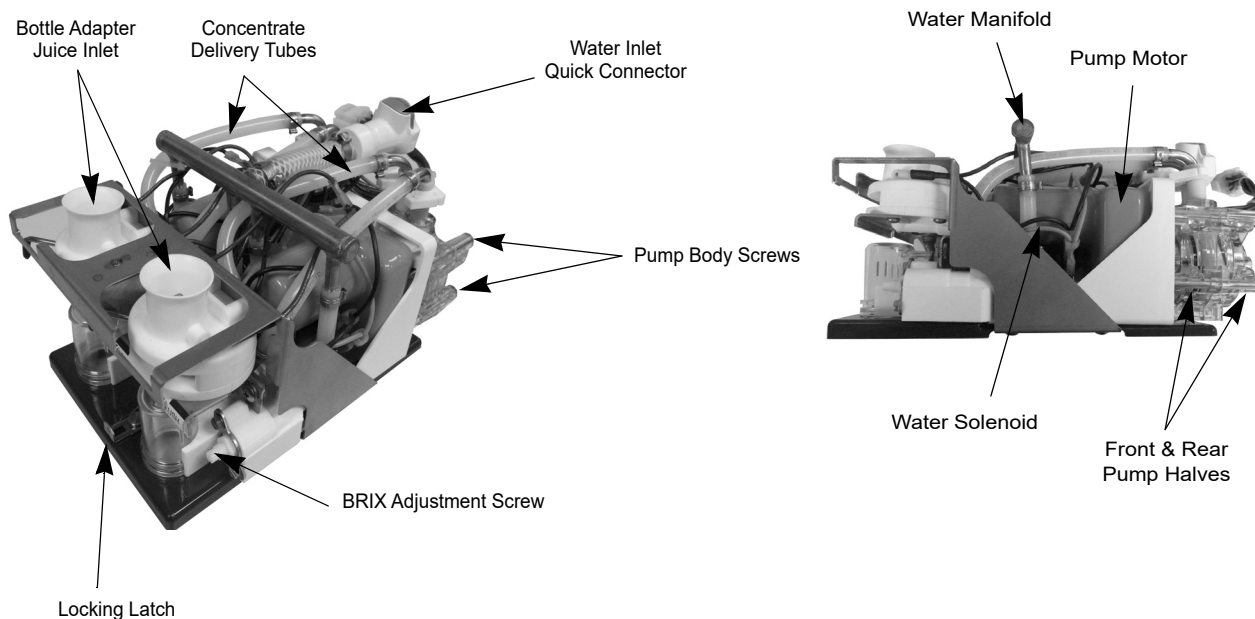

Figure 22. Interior Details
4. Unplug the water line quick disconnect by pressing the gray button (See Figure 22).
5. Slide the locking latch forward. Lift the platform slightly and pull forward to gain access to the electrical connector (see Figure 22).
- Unplug the electrical connector by squeezing the locking tabs on either side and pulling out the connector. Lift and remove the pump platform (see Figure 22).
- Remove the two white plastic hose clamps from the pump tube connections (See Figure 22) and remove the concentrate delivery tubes from the hose ends.